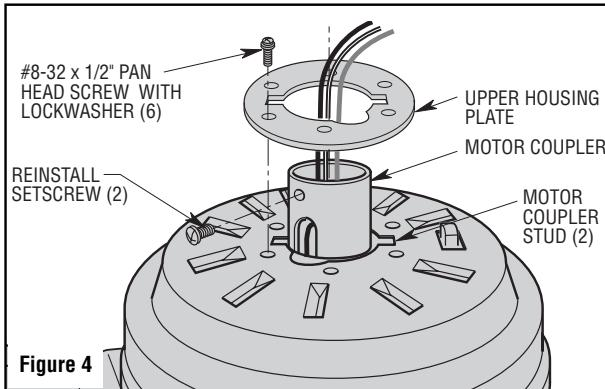

Figure 4
- Place the upper housing plate so that the two notched areas align with the two studs on the motor coupler. Aligning the six screw holes of the upper housing plate onto the motor hub. Firmly attach the upper housing to the motor hub/upper housing plate by using the six #8-32 x 1/2" pan head screws with lockwashers (supplied) (Figure 4).